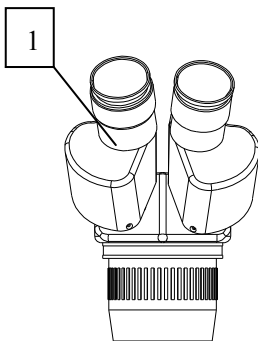

Figure 3
- 2) Observe the specimen through the left eyepiece and adjust the diopter ring 1 until the image is clear. (Figure 3)